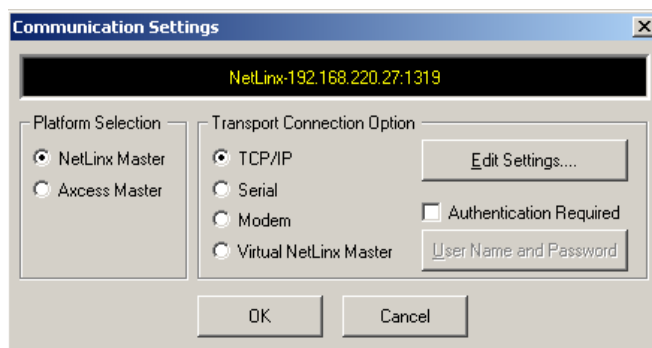

FIG. 34 NetLinX Studio - Communication Settings dialog
2. Click the **Communications Settings** button to open the *Communications Settings* dialog (FIG. 34).